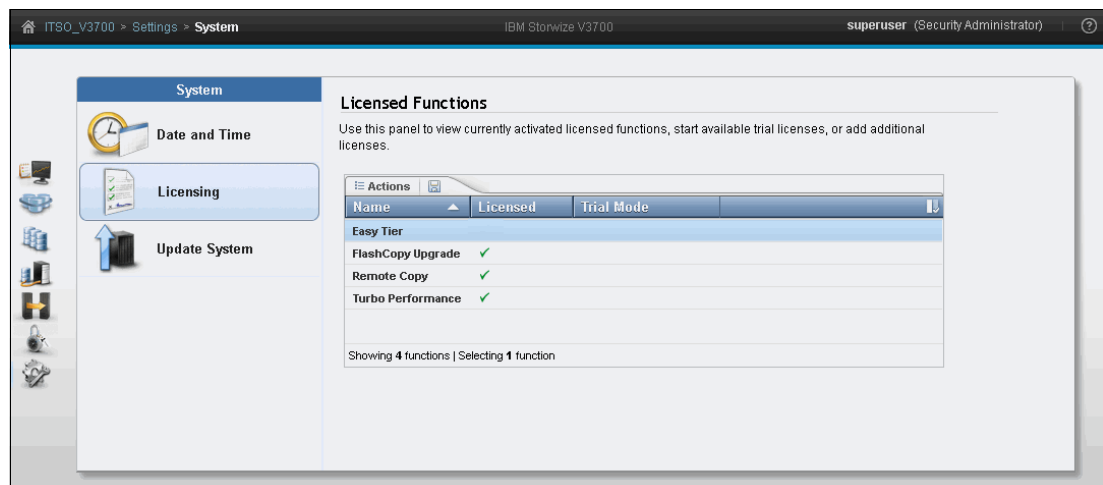

Figure 9-3 Licensed functions window
1. Using the **System** page, go to **Settings** → **System** and choose **Licensing**, as shown in Figure 9-3.